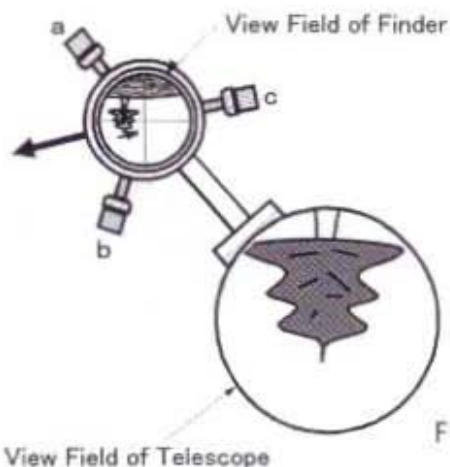

Fig. 17
2. In order to move the crosshair in the direction of the arrow, first loosen screw (a) and tighten (push) the finder with screw (c). This procedure will move the crosshair in the desired direction. The top of the finder will move in the opposite direction and the object will move in the direction of the smaller arrow. Refer to Fig.17.